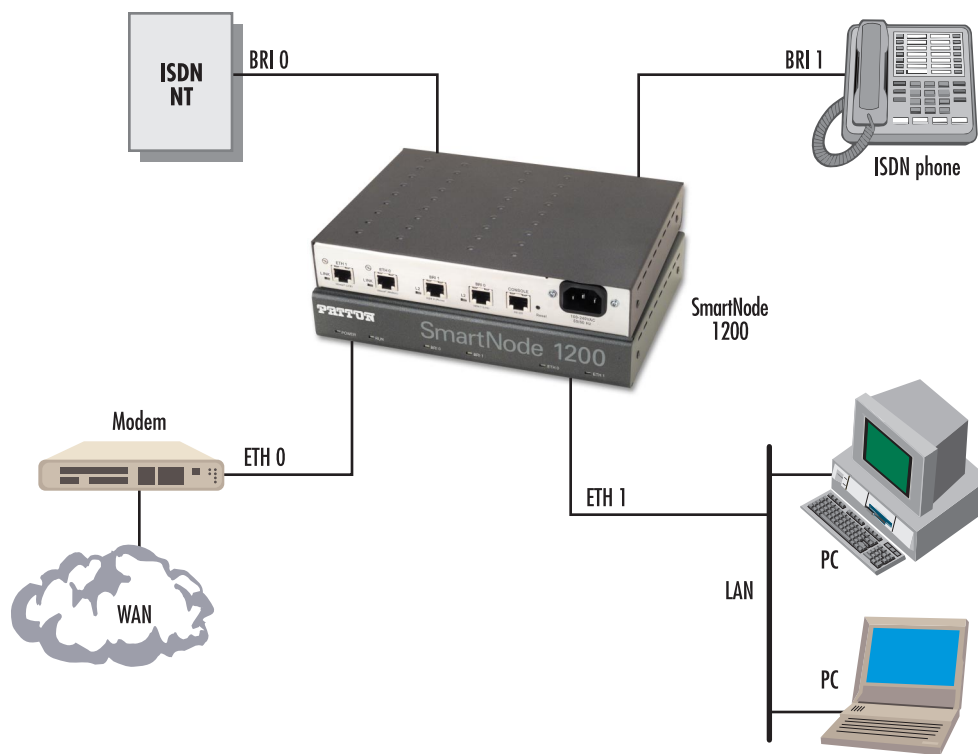
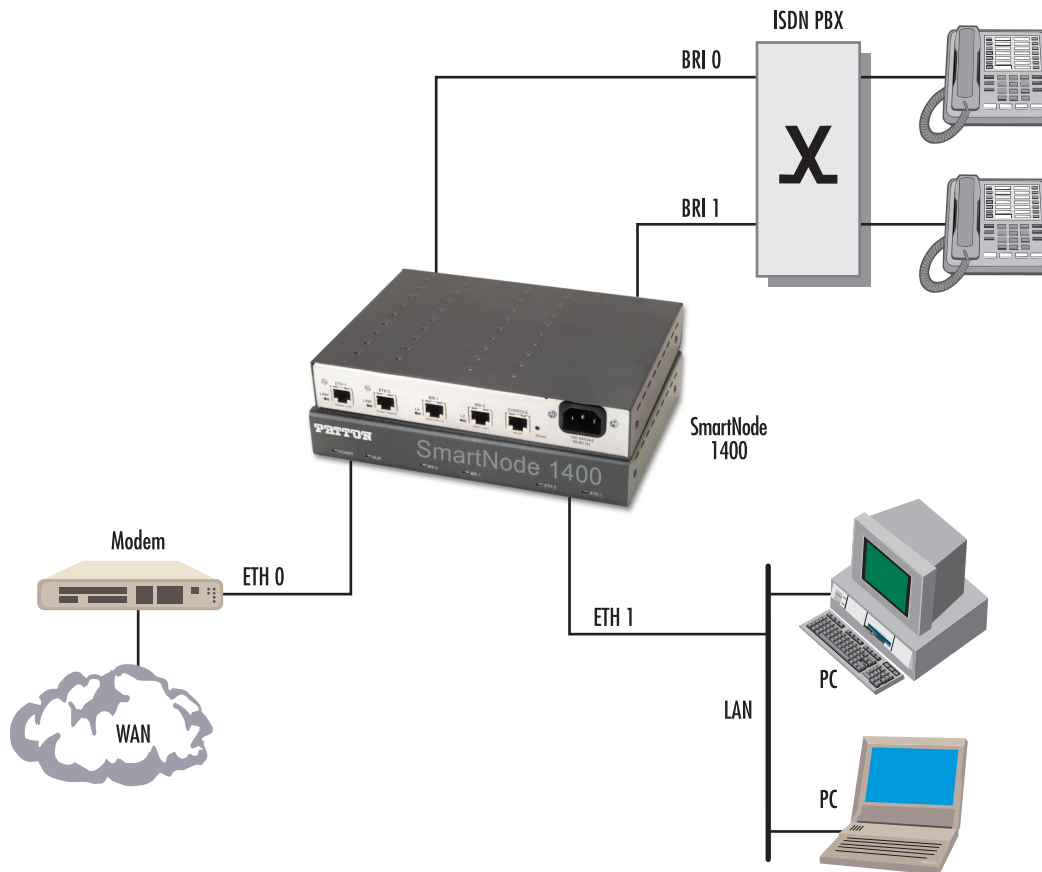
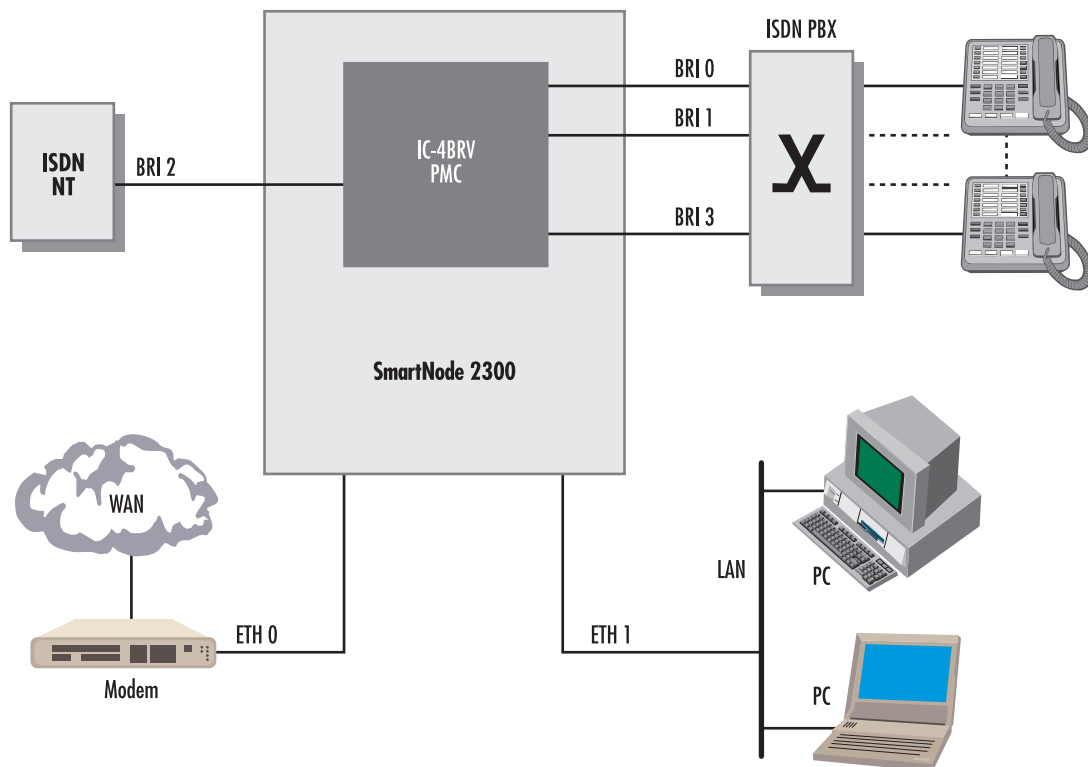

Figure 30. SmartNode 1200 with ISDN phone and ISDN fallback in a SOHO environment
Figure 31. SmartNode 1400 attached to PBX via both ISDN BRIs in an SME environment
Figure 32. SmartNode 2000 Series device connected to a PBX via three BRI ports with fallback to PSTN with one BRI in an SME environment
Figure 30, figure 31 on page 56, and figure 32 on page 57 show typical deployment scenarios for the SmartNode 1000 and 2000 series used as a customer premises gateway supplied by a multi-service provider.
Figure 30 depicts a SmartNode 1200 used as a voice gateway and IP router in a SOHO situation. The voice gateway operates with both H.323 and ISoIP on a call-by-call basis. The SmartNode is connected to the ISDN NT for voice call fallback or exceptional call routing scenarios via port BRI 0. An ISDN telephone is connected to port BRI 1. An ISDN telephone is connected to port BRI 1. A PC is connected to the LAN port. A laptop is connected to the LAN port. A modem is connected to the WAN port via the Ethernet 0 port.
The SmartNode 1400 in figure 31 is set up as a voice gateway and IP router in an SME situation. Both BRI ports are attached to a local PBX, offering up to four simultaneous voice channels to the IP access network that is connected to the Ethernet port ETH 0.
Figure 32 depicts a SmartNode 2000 series used as a voice gateway and IP router in an SME situation. The optional IC-4BRV interface card's BRI 2 port is used as an ISDN fallback interface. In case of a power failure, equipment connected to port BRI 1 is bypassed with a relay to interface BRI 2. It remains operational even if the SmartNode 2000 series is not powered. Three ports of the PBX are connected to the remaining BRI ports of the IC-4BRV interface card, providing up to six concurrent ISDN B-channels. The voice data is transferred via the integrated voice gateway in the SmartNode 2000 series over Ethernet port ETH 0/0. Depending on the call procedures defined by the software running in the SmartNode 2000 series, voice data is formatted as H.323 compliant or as ISoIP voice streams.
- Figure 30 on page 55
- Figure 31 on page 56
- Figure 32 on page 57